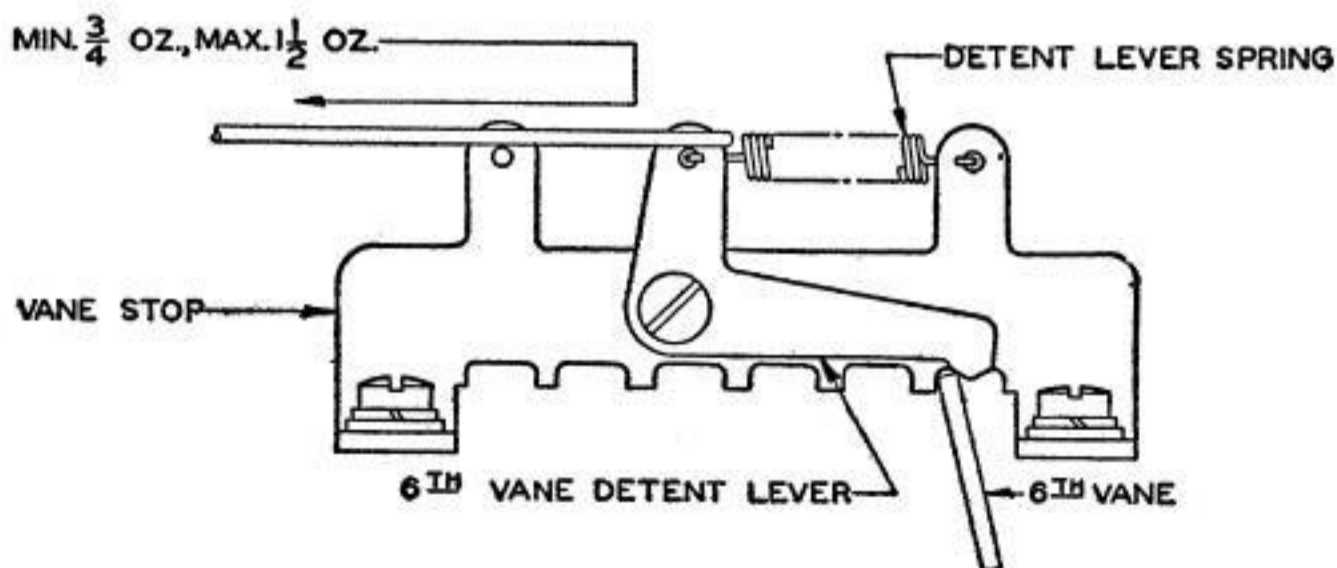

Fig 24
3.41 **Sixth-Vane Detent-Lever Springs:** It should require Min 3/4 oz, Max 1-1/2 oz, to start each detent lever moving. Fig 24